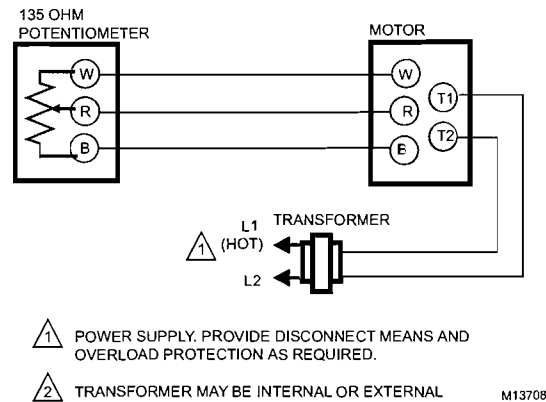

Fig. 6. Wiring for Potentiometer Control.
3. Connect a remote potentiometer to the motor as shown in Fig. 6 (R-W-B).
3. Connect a potentiometer to the motor as shown in Fig. 6.